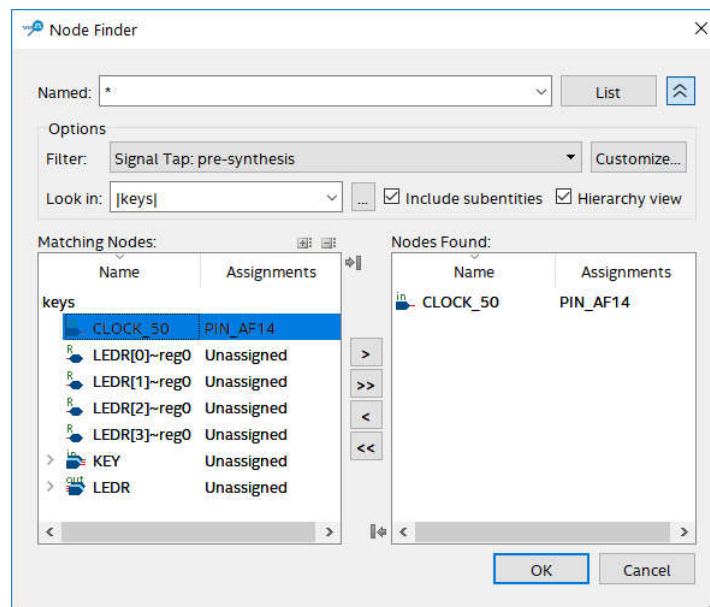

Figure 8. Setting CLOCK_50 as the clock for the SignalTap instance on a DE-series board.
4. Before the SignalTap analyzer can work, we need to specify what clock is going to run the SignalTap module that will be instantiated within our design. To do this, in the Clock box of the Signal Configuration pane of the SignalTap window, click , which will again bring up the Node Finder window. Select **List** to display all the nodes that can be added as the clock, and then double-click **CLOCK_50**, which results in the image shown in Figure 8. Click **OK**.